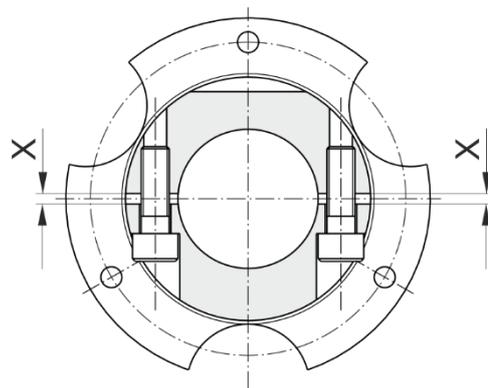

Fig. 7
- d) Tighten the cap screws (1.7.1) cross-wise and in several tightening sequences to the tightening torque stated in Table 1b. Please make sure that the gap "X" (Fig. 7) has the same size on both hub sides.